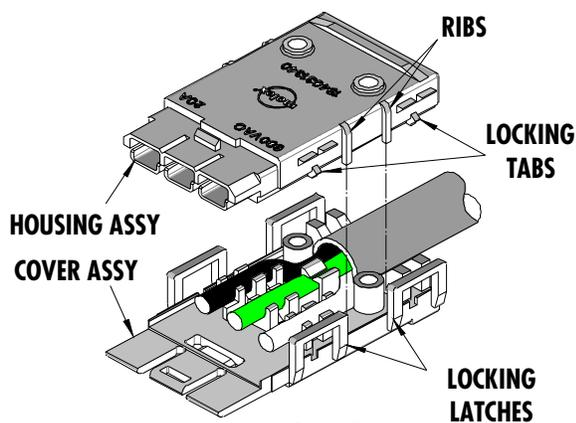
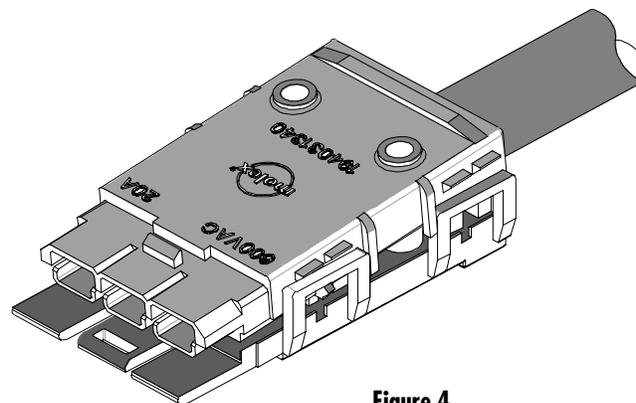

Figure 3
Figure 4
4. Position the housing assembly over the cover with the ribs in the housing aligned between the latches as shown in Figure 3. Push the two halves together until the locking tabs engage as shown in Figure 4.